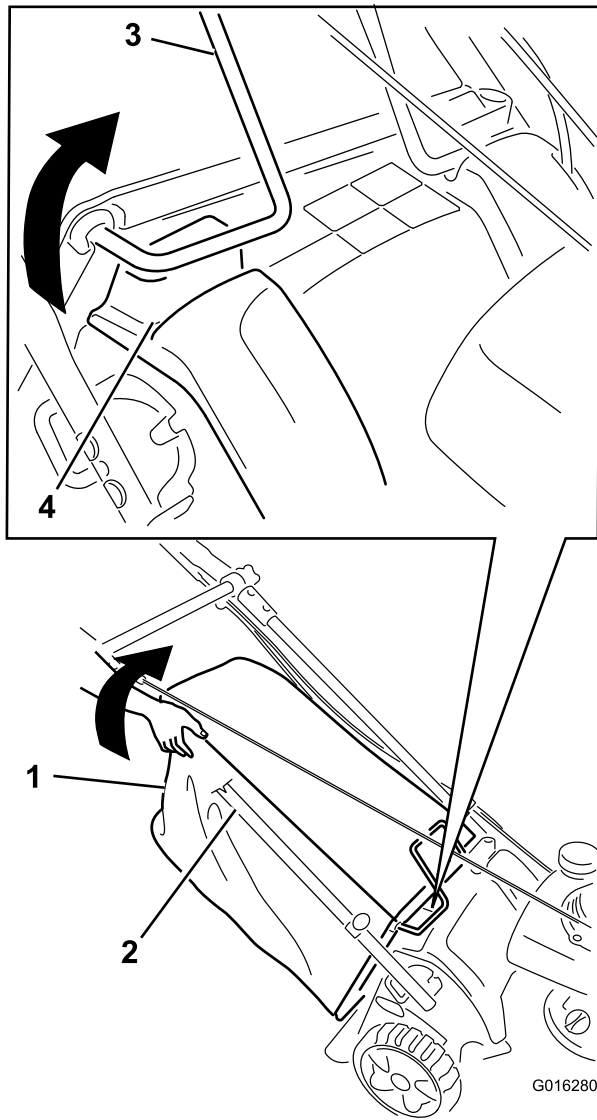

**Figure 49**
2. Move the handle all the way forward and loosen the upper handle knob (Figure 49).